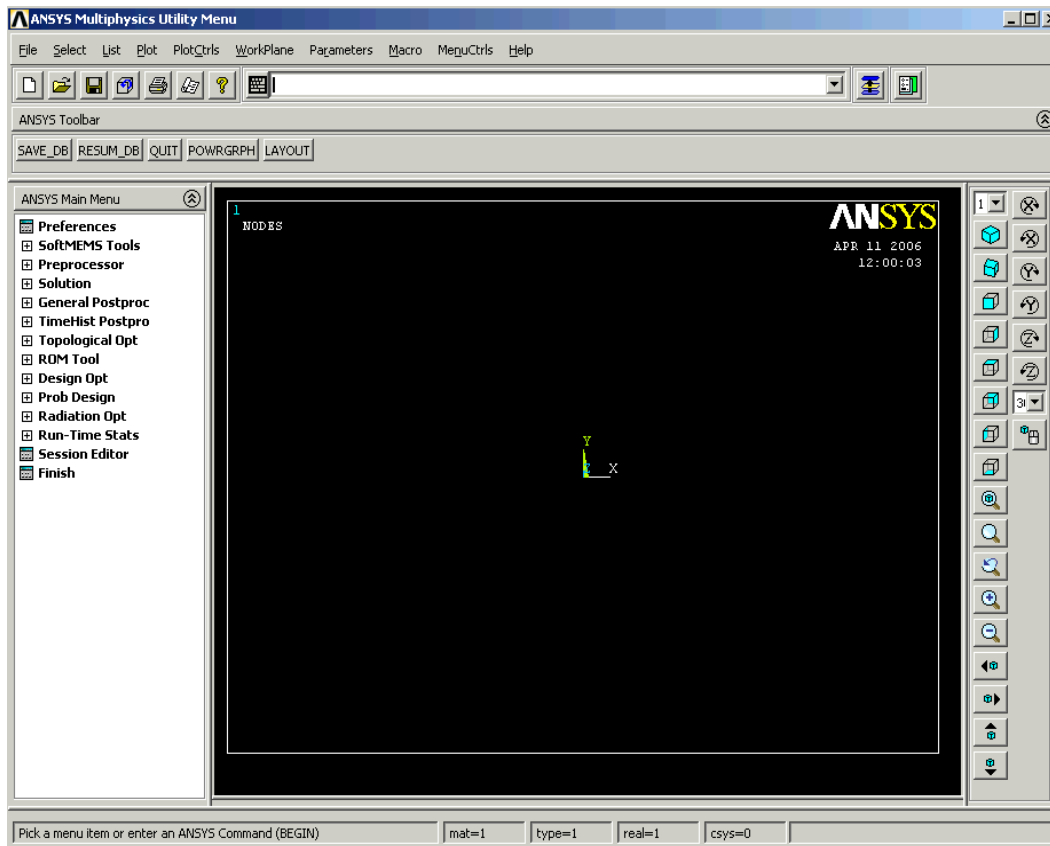

Figure 105: ANSYS Graphical Interface
- ☑ To launch ANSYS, click **Run**. The **ANSYS Graphical Interface** appears (Figure 105).